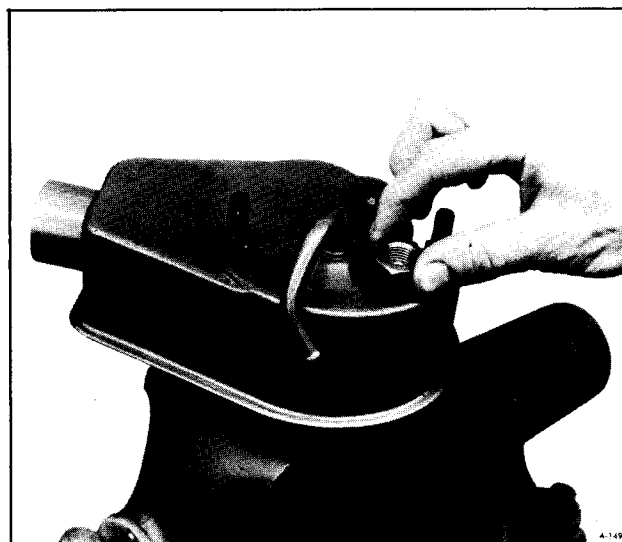

Figure 9—Studs & Union Being Removed
1. Clamp front hub of pump in vise so that the extending portion of shaft is directed downward, being careful not to clamp vise too tight as this may distort the bearing (figure 9).
from back of reservoir. Discard all seals and "O" rings. (figure 9).
17. Insert both stud bolts and tighten (25-40 ft. lb.) (figure 9).
18. Install new "O" ring on union and lubricate with Power Steering Fluid. Make sure "O" ring is in the groove next to the head hex. Insert union in flow control valve hole in back of reservoir and tighten (25-40 ft. lbs.) (figure 9).